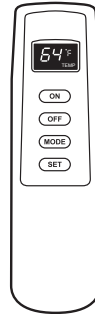

Figure 27 - Remote Control
4. Press the ON button on the remote control to light the burner (see Figure 27). You will hear a series of beeps. This will also "learn", or program, the remote and the receiver.